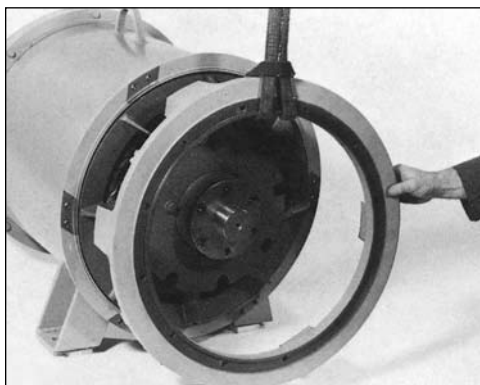

Figure 6-55
3. a. For single bearing generators, slide the SAE adapter over the fan and secure to the main stator and frame assembly with capscrews torqued per section 11 (figures 6-55 and 6-56). It may be necessary to raise the rotor assembly slightly to allow the mounting of the SAE adapter.